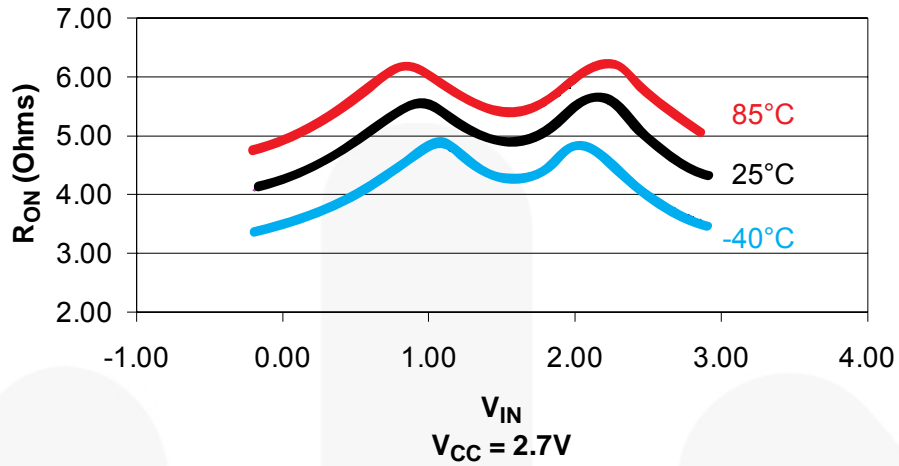

Figure 12.  $R_{ON}$
| $R_{ON}$                        | Data Path Switch On Resistance (3) | $V_{SW} = 0, 2.0\text{V}, I_{ON} = -20\text{mA}$Figure 3, Figure 12 | 2.7          |   | 5.0  | 7.0  | $\Omega$      |